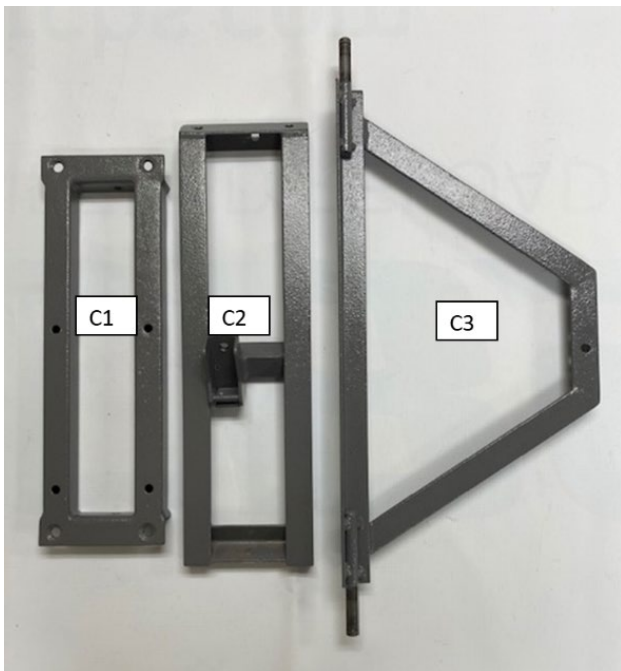

Figure 1
- A. The cart axel needs to be on the inside, as shown in figure 1.
- B. The four center holes on the cart top support (C1) must be positioned towards the rear of the cart, away from the axel, as shown in figure 1.